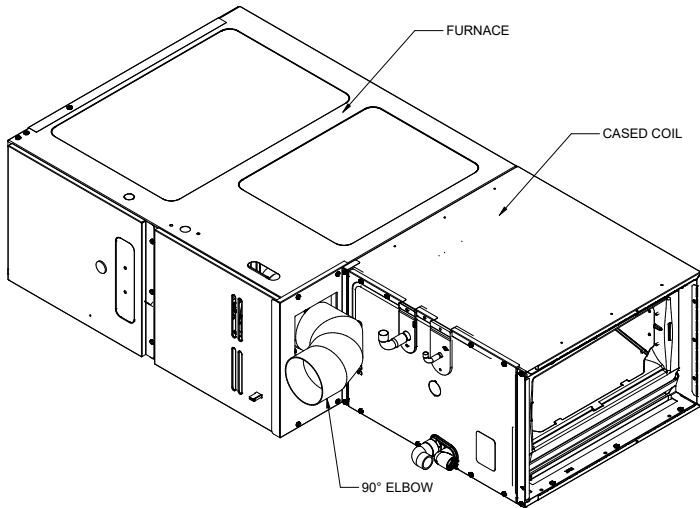

Figure 3A
- In case of CHPTA1822A coil match up with 80% Furnace in Horizontal Right application, 90° elbow flue vent must be used and oriented away from the cased coil (see Figure 3A).